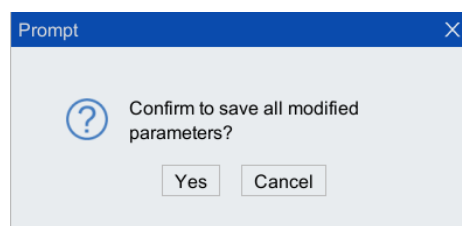

Figure 4-21 Confirm to save the modification prompt box
Step 7. Click <Yes> in the prompt dialog box that pops up. As shown in Figure 4-21.